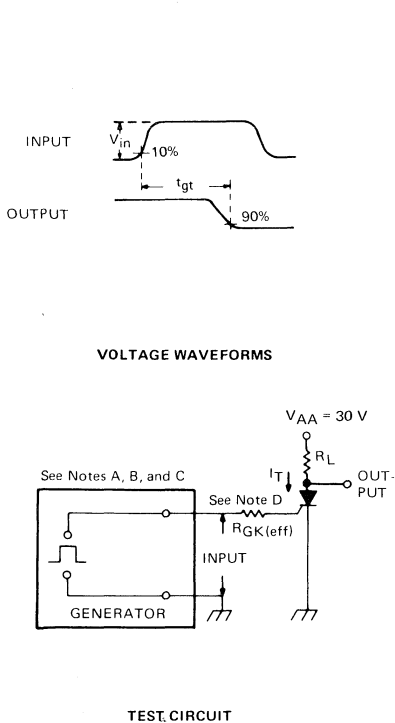

FIGURE 1 — GATE-CONTROLLED TURN-ON TIME
- The input waveform of Figure 1 has the following characteristics: $t_r \leq 40\text{ ns}$, $t_w \geq 20\ \mu\text{s}$.